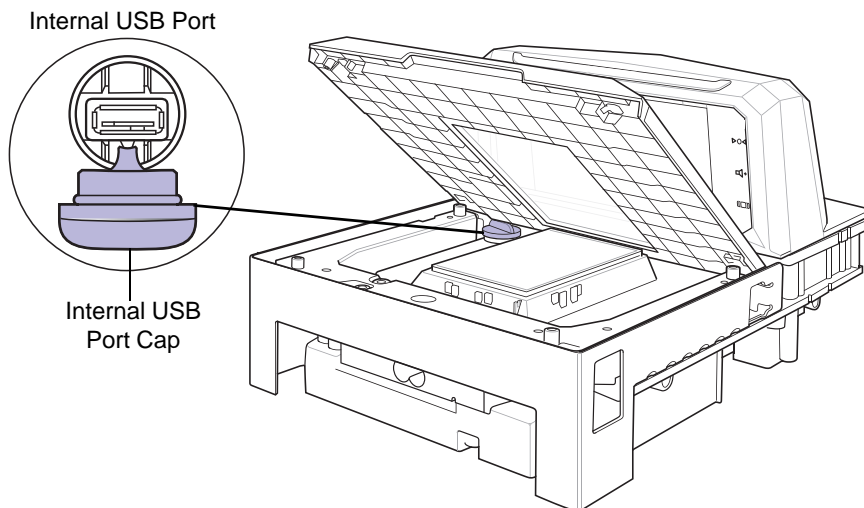

Figure 5-10 USB Port Under the MP6000 Platter
The MP6000 has three USB ports which can be used to load files (see Figure 5-10):
- Insert the staging flash drive into one of the MP6000 USB ports (Figure 5-10), and select *Option 1 - Load Files* (see Step 3).